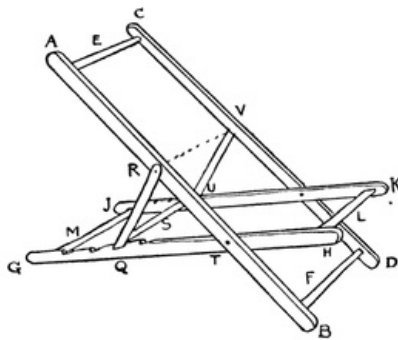
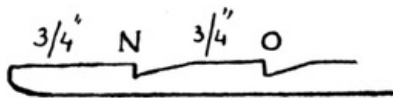

FIG. 289
FIG. 290
**A Deck-chair** (Fig. 289). Two pieces of stripwood,  $\frac{1}{4} \times \frac{1}{4} \times 6$ , A B, C D, are taken. These are nailed and glued to E and F, each  $2\frac{1}{4}$  inches. E and F should not be placed too near the ends of A B and C D, as the wood may split when the nails are driven in. E and F may be rounded. For the smaller frame of the chair, cut two pieces of stripwood, 5 inches in length. To get the measurements for the bars, M and L, place G H and J K inside A B C D as in Fig. 289, and measure distances G J and H K. This must be done very accurately. Before nailing G H and J K together, notches must be cut in them as in Fig. 290. The wood is partly sawn through at N and O, and the notch is then filed out, the safe edge of the file being turned towards N and O. To make the support, two pieces of wood are cut 2 inches in length, Q R and U V in Fig. 291, which shows how the length of the piece of wood S, which fastens Q R and U V together, is obtained. Frame G K is now nailed to frame A D (Fig. 289). Fix the point for the nail at T about 2 inches from H and B. When hammering the nail in at T, the bars A B and G H should rest upon the edge of the bench or table.